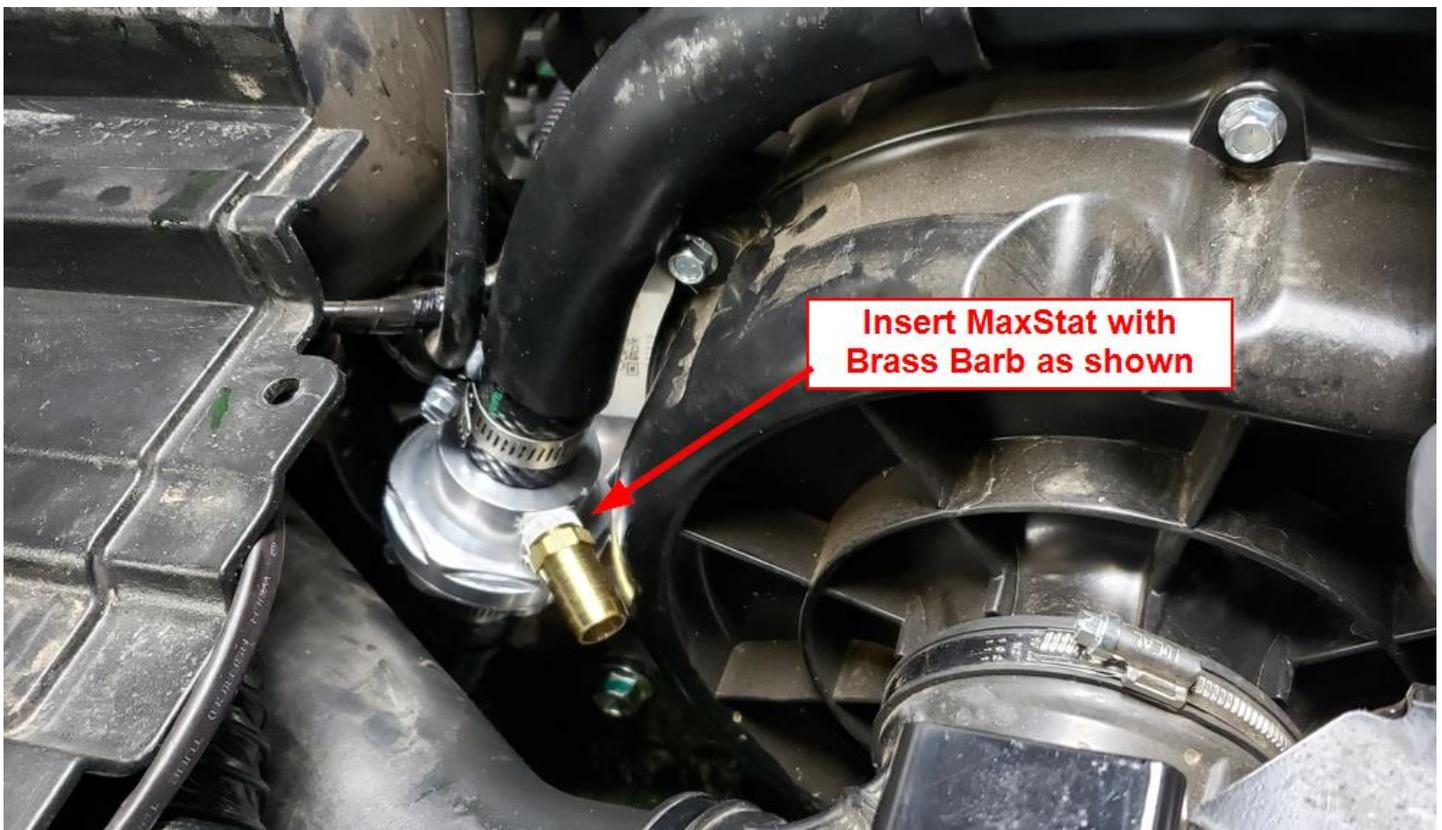

Figure 36
- i. If The MaxStat is ordered, refer to Figure 36. Using #16 Hose Clamps to secure the MaxStat.